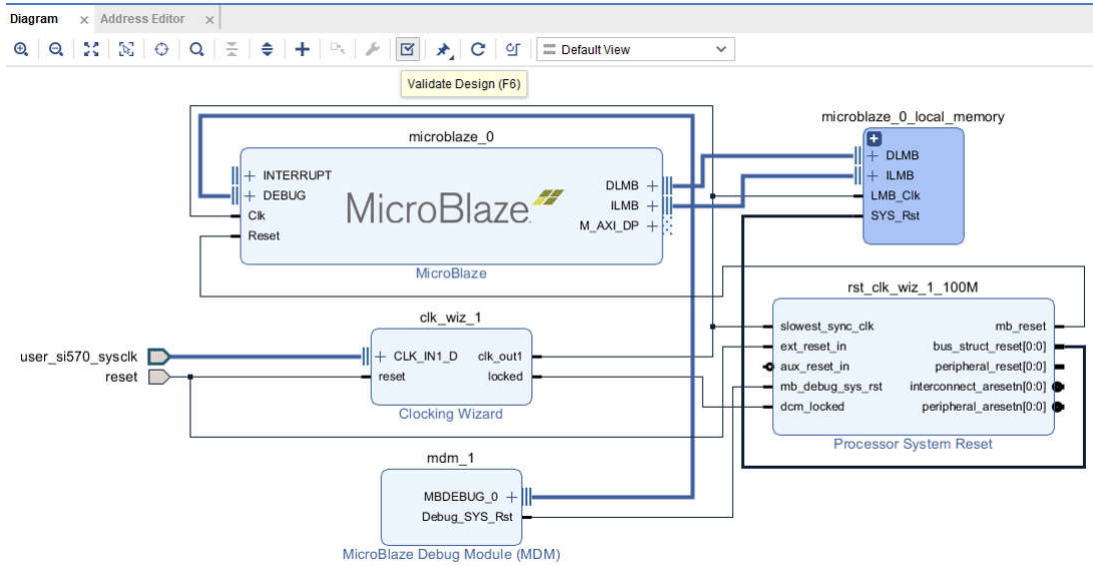

Figure 5-15. Validating Block Design
19. Validate the design to ensure no errors as shown in Figure 5-15.